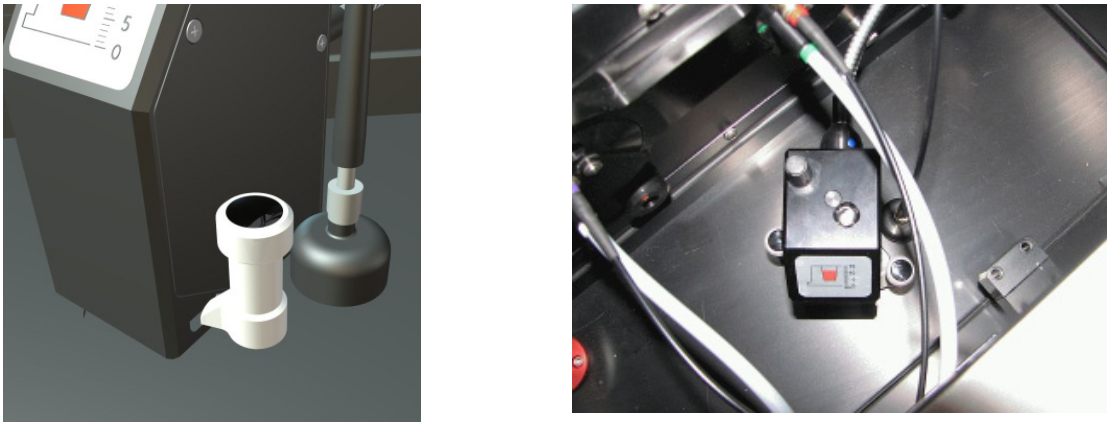

Figure 22: Schematic of the Quick-Fix holder (left) and actual image of the TRF-optic head in the instrument (right).
3) Turn the lower right Quick-fix clockwise until it touches the base of the TRF optic head. Hold the optic head with your left hand while lifting up the Quick-fix with your right hand approx. 7 mm and turn further clockwise until the lever touches the wall. Release the Quick-fix and it will snap-on and hold the optic head in position. Repeat this procedure for the upper left Quick-fix (Fig. 22).